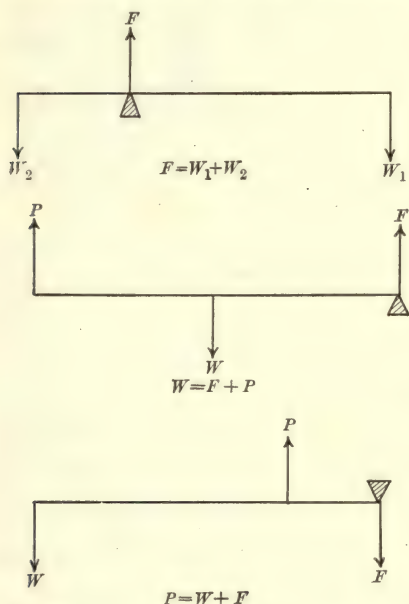

FIG. 15. — Force exerted by fulcrum of lever.
22. Force at the fulcrum. It must not be forgotten that in examples of the lever, the fulcrum itself exerts a force, that is, a push or a pull. When the fulcrum is between the two weights, it evidently has to push up an amount equal to the sum of the weights; that is (Fig. 15, top), $F = W_1 + W_2$.
ward push, which must be such that it and the upward pull (P) are together equal to the weight. That is (Fig. 15, middle), $W = F + P$. When the fulcrum is at one end and the weight at the other end, it will be readily seen that the fulcrum has to push downward and that the upward pull (P) must equal the sum of this downward push at F and the weight W . That is (Fig. 15, bottom), $P = W + F$. In short, it will be seen that in all these cases *the sum of the forces pulling up must equal the sum of the forces pulling down.*